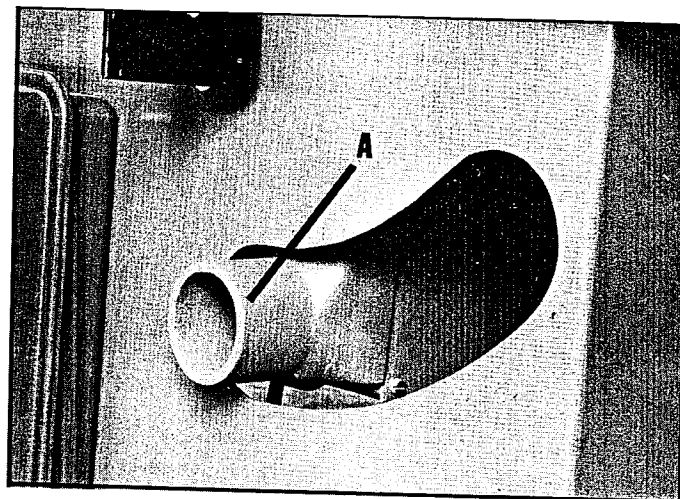

Fig. 62
The lower half of the saw blade is completely covered with a large chip exhaust chute (A) Fig. 62. The exhaust chute moves with the saw arbor when the blade is tilted. The diameter of the opening of the exhaust chute is 3" O.D. and may be attached to a central dust collection system.